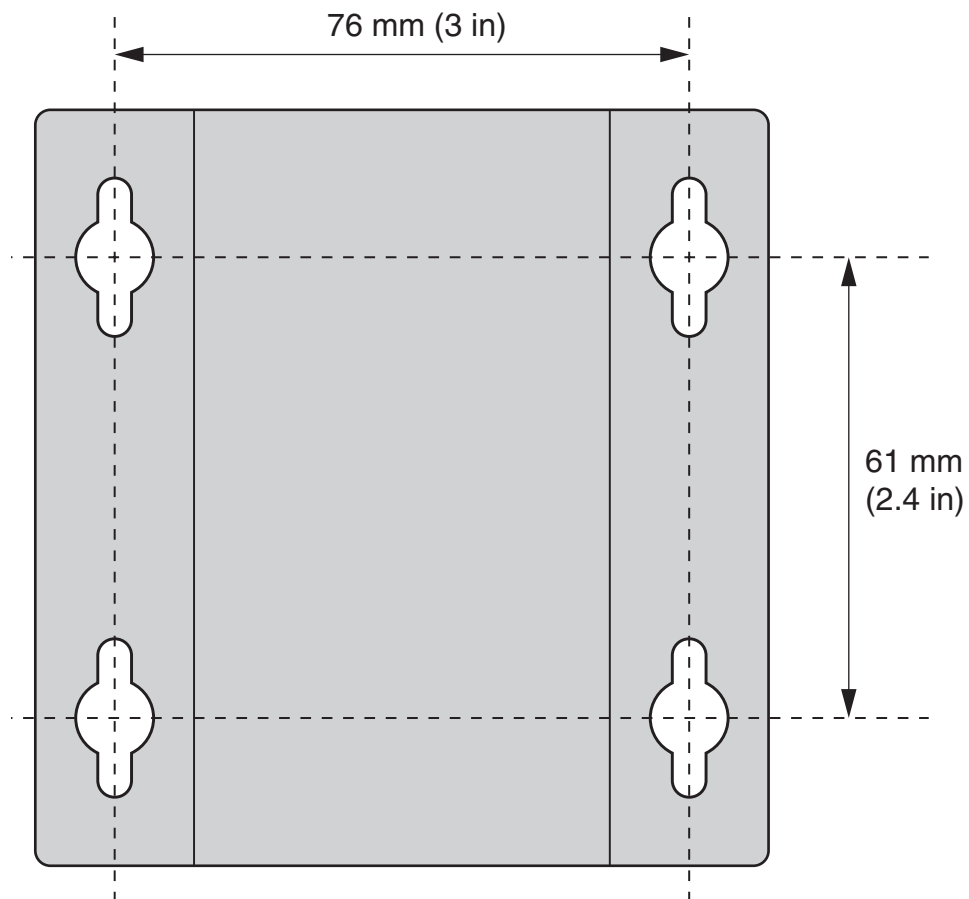

Figure 37. Wall-mount Template
5. Print out the template in Figure 37.